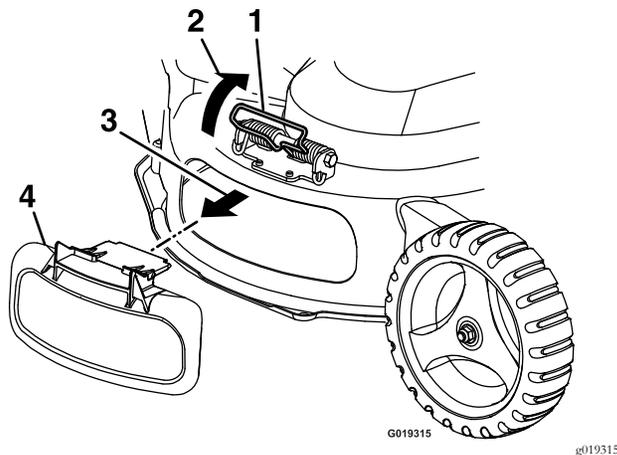

Figure 18
4. Lift and hold the side discharge spring in the “up” position and pull outward on the discharge door to remove (see Figure 18).
2. Lift and hold the side discharge spring in the “up” position and pull outward on the discharge deflector to remove it (reference Figure 18).